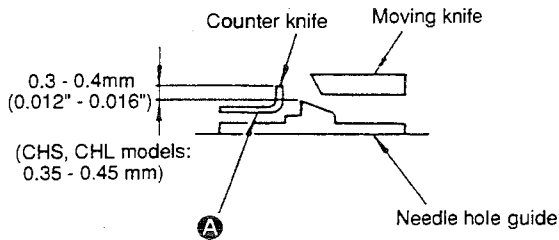

Fig. 5-15-2
- A) If the specified difference in height is not obtained between the needle hole guide and the counter knife blade, pry part A (Figs. 5-15-2, 5-15-4) out using a screwdriver to adjust the height of the needle hole guide with respect to the counter knife blade.